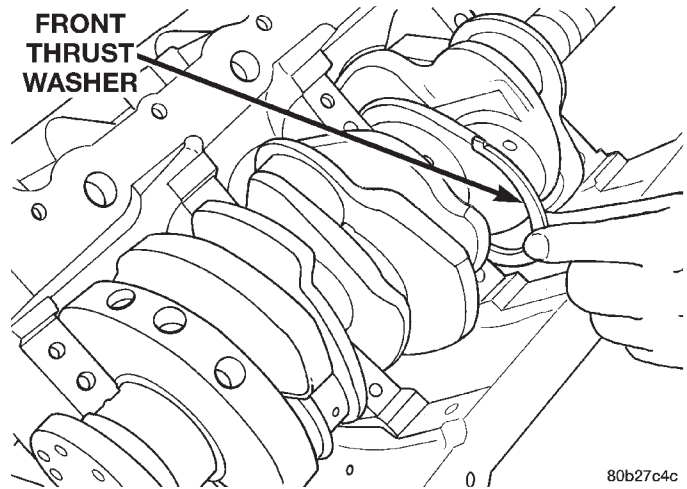

Fig. 90 Thrust Washer Installation
- (4) Lubricate and install lower bearing half and main cap. Tighten bolts finger tight.
- (5) For installing thrust washers at the No. 2 main bearing location, use the following procedure:
- a. Move crankshaft forward to limit of travel. Lubricate and install the front thrust washer by rolling the washer onto the machined shelf between the No. 2 upper main bulk head and crankshaft thrust surface (Fig. 90).